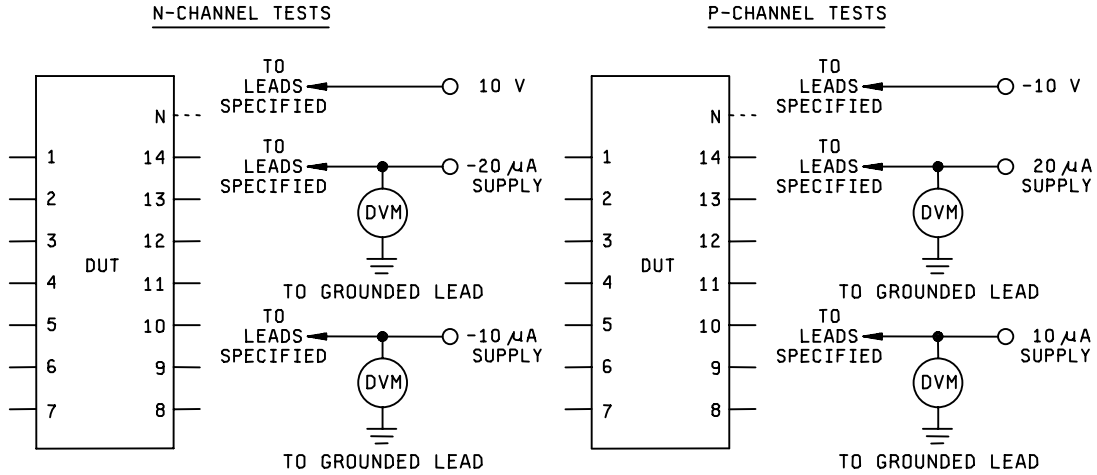

FIGURE 5. Threshold-voltage test circuit.
- Threshold-voltage test circuit conditions shall be as specified in table VII and on figure 5. In situ and remote testing, the tests shall be performed with the devices biased in accordance with table VI and the bias may be interrupted for up to 1 minute to remove devices to the remote bias fixture.